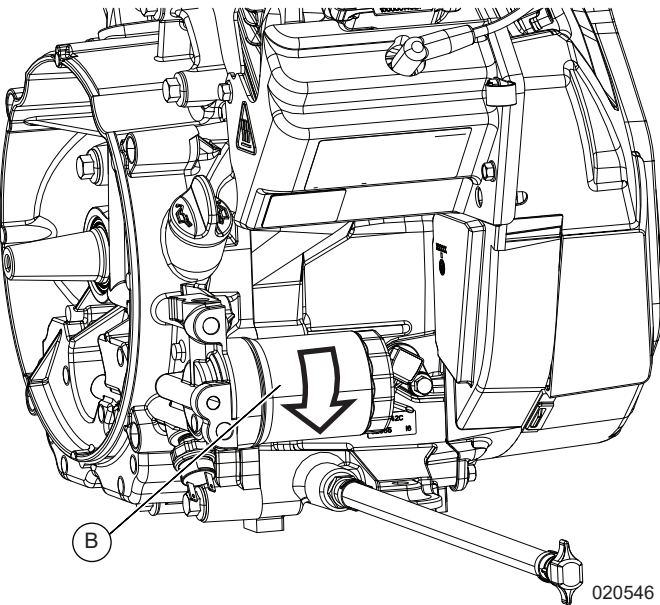

Figure 11-4. Remove Oil Filter
3. See Figure 11-4. To change oil filter: